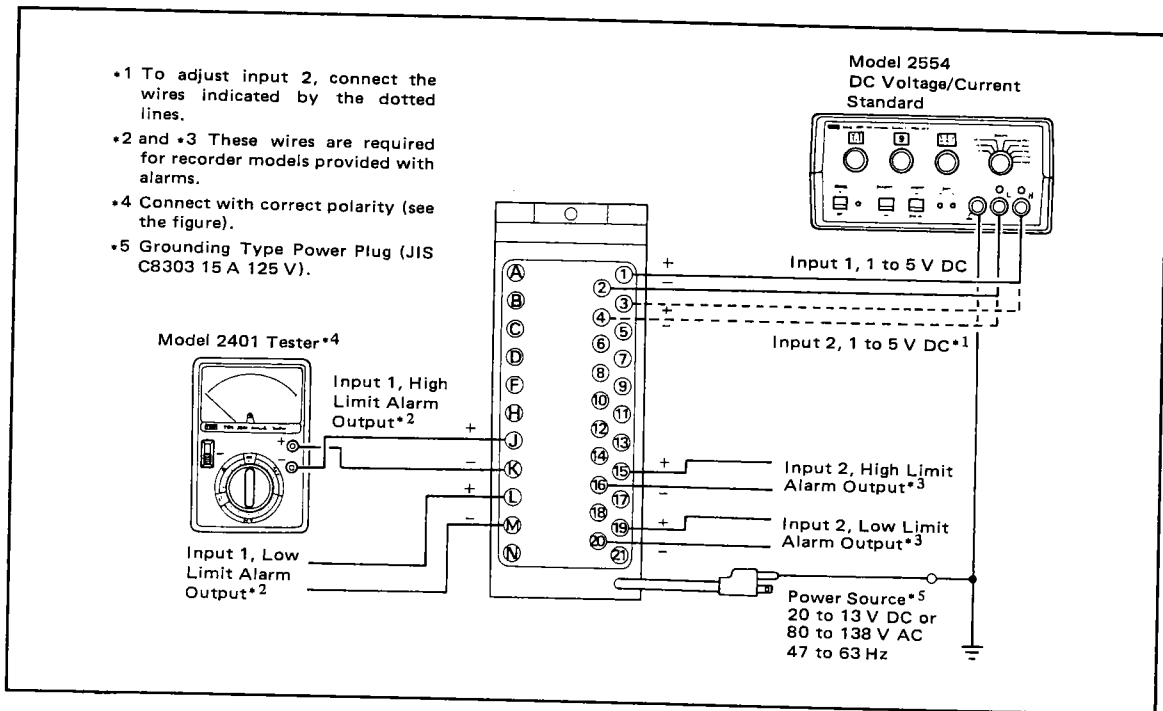
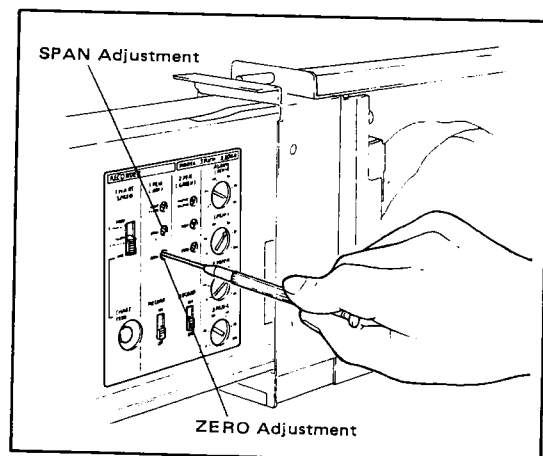
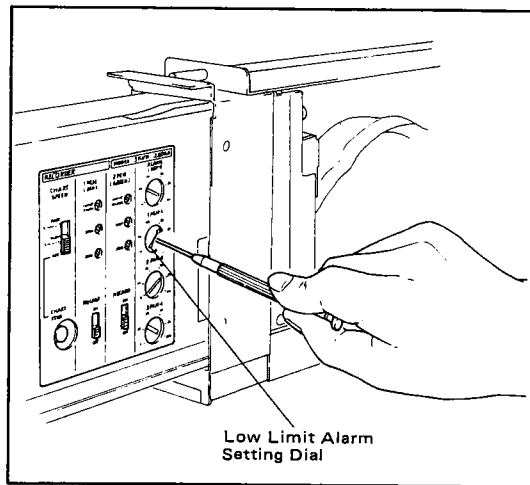

Figure 6-1. Calibration and Adjustment Wiring Diagram.
Figure 6-2. ZERO and SPAN Adjustments.
Figure 6-6. Alarm Point Setting.
- (1) Wire the SRVD recorder and test equipments in accordance with Figure 6-1.
- (2) Turn on the SRVD recorder and test equipments and allow about five minutes for them to stabilize before performing adjustments.
- (3) Turn the ZERO adjustment on the tuning panel (located on the side of the recorder) until a 0% reading is recorded when the input value is set to 1 V DC (0%) (Figure 6-2).
- (4) Turn the SPAN adjustment potentiometer on the tuning panel (located on the side of the recorder) until a 100% reading is recorded when the input value is set to 5 V DC (100%).
- (5) After performing steps (3) and (4), confirm that the recorded set value is within $\pm 0.5\%$ of span when the input value is set to:
- (1) Wire the instrument as shown in Figure 6-1 using the SRVD recorder and test equipment.
- (2) Turn on the recorder and test equipment and allow about one minute for them to stabilize before performing adjustments.
- (3) Set the high and low limit alarm setting dials to the desired alarm points (See Figure 6-6).
- (4) With an ohmmeter connected across the alarm output terminals. Vary the input value from 1 to 5 V (0 to 100%), and confirm that the alarm lamp on the front panel illuminates at the alarm set point. At the same time, an alarm contact signal should be output (the contract is open when the alarm is activated).